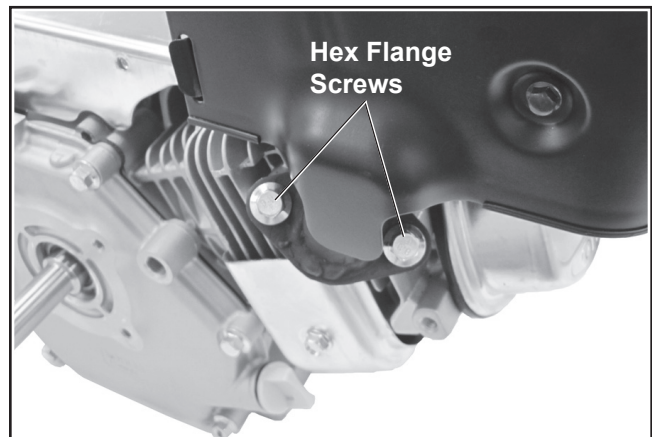

Figure 18. Remove Hex Flange Screws.
1. Remove the hex flange screws securing the muffler to the head. See Figure 18.